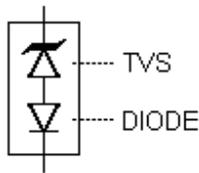
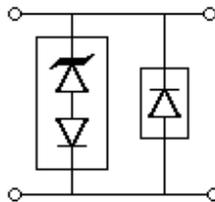

FIGURE 4
FIGURE 5
The SMBJSAC transient voltage suppressor (TVS) series rated at 500 Watts provides an added rectifier element as shown in Figure 4 to achieve low capacitance in applications for data or signal lines. The low capacitance rating of less than 30 pF may be used for protecting higher frequency applications in inductive switching environments or electrical systems involving secondary lightning effects per IEC61000-4-5 as well as RTCA/DO-160D or ARINC 429 for airborne avionics. If bidirectional protection is needed, two SMBJSAC devices in anti-parallel configuration are required as shown in Figure 6. With their very fast response time, they also provide ESD and EFT protection per IEC61000-4-2 and IEC61000-4-4 respectively.
* TVS devices are not typically used for dc power dissipation and are instead operated $\leq V_{WM}$ (rated standoff voltage) except for transients that briefly drive the device into avalanche breakdown (V_{BR} to V_C region) of the TVS element. Also see Figures 5 and 6 for further protection details in rated peak pulse power for unidirectional and bidirectional configurations respectively.
The TVS low capacitance device configuration is shown in Figure 4. As a further option for unidirectional applications, an additional low capacitance rectifier diode may be used in parallel in the same polarity direction as the TVS as shown in Figure 5. In applications where random high voltage transients occur, this will prevent reverse transients from damaging the internal low capacitance rectifier diode and also provide a low voltage conducting direction. The added rectifier diode should be of similar low capacitance and also have a higher reverse voltage rating than the TVS clamping voltage V_C . The Microsemi recommended rectifier part number is the "SMBJLCR60" for the application in Figure 5. If using two (2) low capacitance TVS devices in anti-parallel for bidirectional applications, this added protective feature for both directions (including the reverse of each rectifier diode) is inherently provided in Figure 6. The unidirectional and bidirectional configurations in Figure 5 and 6 will both result in twice the capacitance of Figure 4.